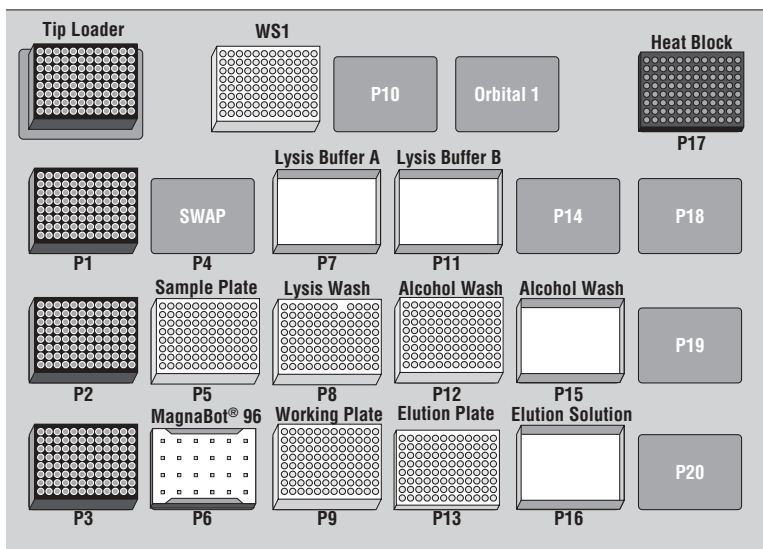

Figure 1. Biomek® FX initial deck configuration.
1. Prepare the Wash Buffer, Plant by adding 1 part 95–100% ethanol and 1 part isopropanol to 2 parts Wash Buffer and mix well. This is called “Alcohol Wash” on the Biomek® FX Deck. Fill an inverted tip box lid with 140ml of this Wash Buffer and place on the deck at the “Alcohol Wash Dispense” position (Figure 1).
2. Fill 3 inverted tip box lids with 100ml Lysis Buffer A, 50 ml Lysis Buffer B, and 40ml TE (pH 8.0) or Nuclease Free Water, respectively and place on defined positions on the Biomek® FX deck (Figure 1).
3. Thoroughly resuspend the MagneSil® Paramagnetic Particles (PMPs) and manually add 20–30 $\mu$ l to each well of a 1.2ml deep well 96-well plate (“working plate”) and place on the deck as shown in Figure 1.
5. Place the plates and tips on the Biomek® FX deck as shown in Figure 1. It's important that a 1/4 inch Foam Spacer be placed onto the Deep Well MagnaBot® 96 Separation Device.